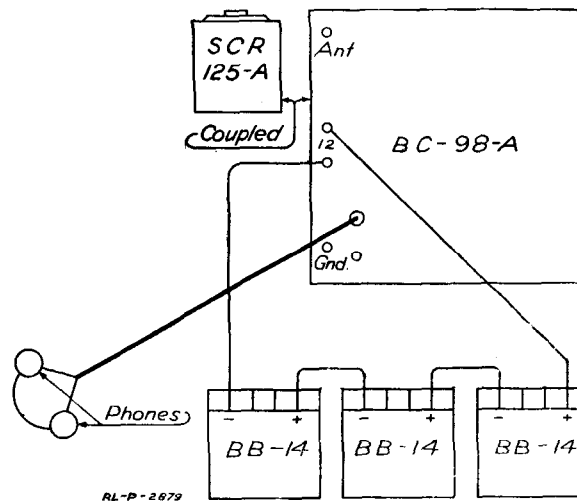

Fig. 111.—Cording diagram of receiver connections of SCR-109-A set and method of coupling the SCR-125-A wave meter to the receiver circuit.
6. To connect up the receiver. (See Fig. 111.)